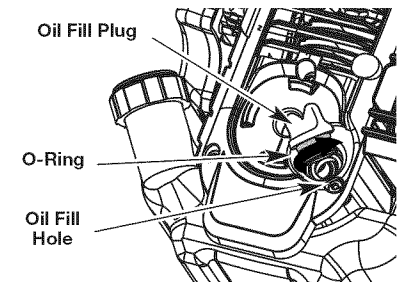

Fig. 7
- Remove the oil fill plug from the crankcase (Fig. 7).